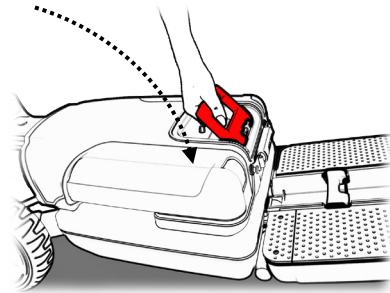

Figure 36
4. Push the back of the chair forwards until it clicks (see Figure 36).